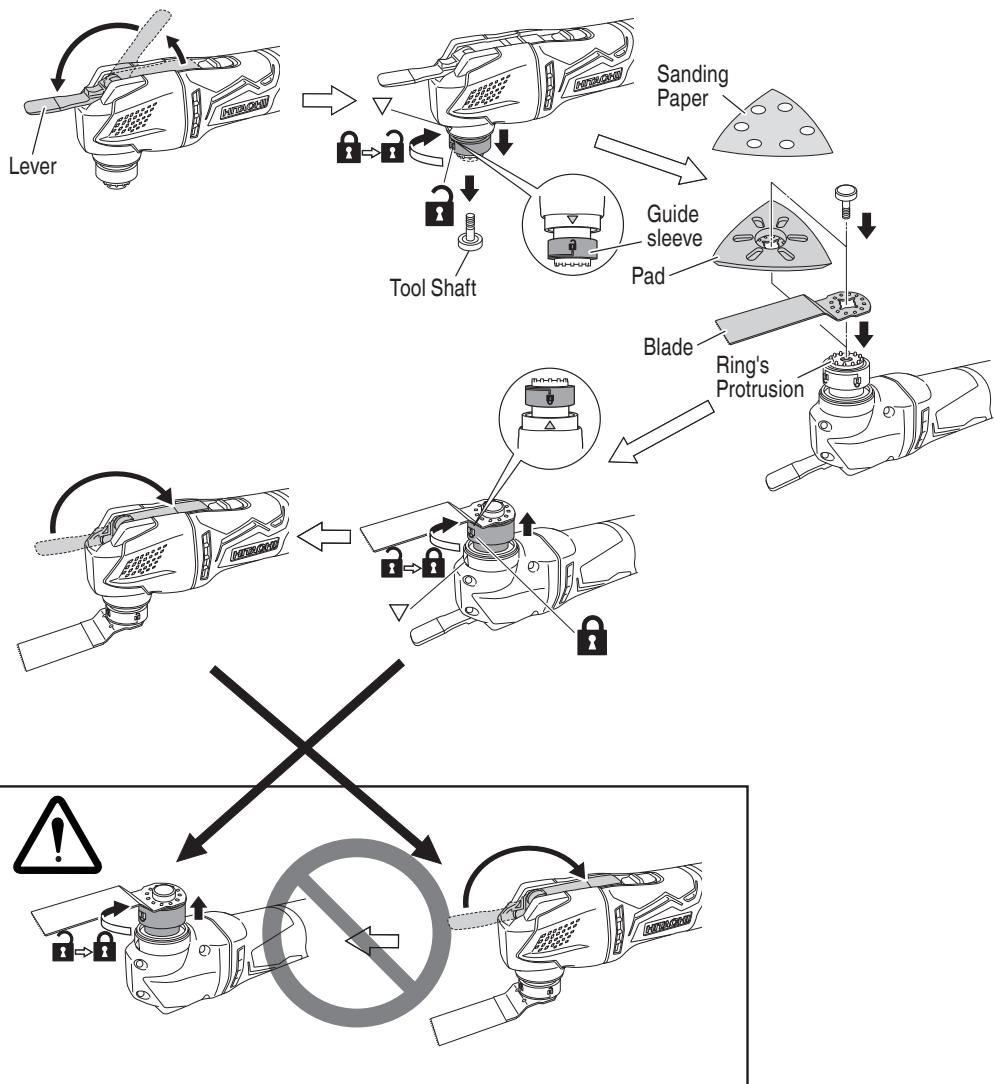

Fig. 3
7. Changing application tools (Fig. 3)